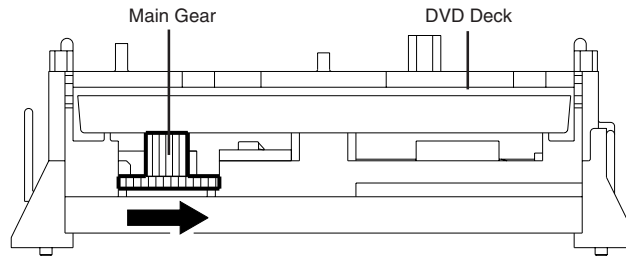

Fig. 1
1. Remove the Top Cabinet and Front Cabinet. **(Refer to item 1 of the DISASSEMBLY INSTRUCTIONS.)**
2. Rotate the Main Gear in the direction of the arrow by hand. **(Refer to Fig. 1)**